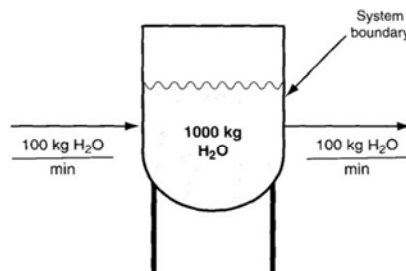
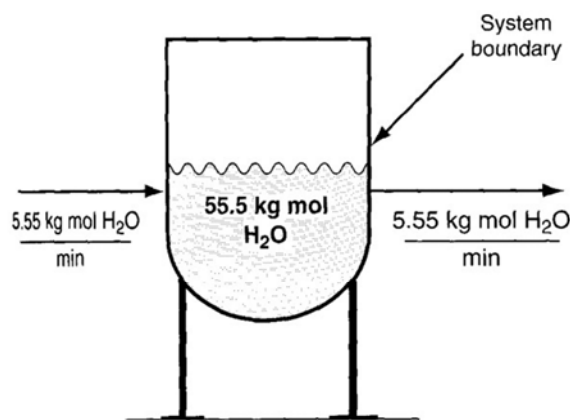

Figure 6.2 An open steady–state system.
Figure 6.7 The system in Figure 6.2 with the flow rates shown in kg mol.
Figure 6.2 is an example of an **open system** (also called a **flow system**) because material crosses the system boundary.
Because the rate of addition of water is equal to the rate of removal, the amount of water in the vessel shown in **Figure 6.2** remains constant at its original value (**1000 kg**). We call such a **process** or **system** a **steady-state process** or a **steady-state system** because
1. The **conditions** inside the process (specifically the amount of water in the vessel in Figure 6.2) **remain unchanged with time**, and
Equation 6.1 can apply to moles or any quantity that is conserved. As an example, look at Figure 6.7 in which we have converted all of the mass quantities in Figure 6.2 to their equivalent values in moles.